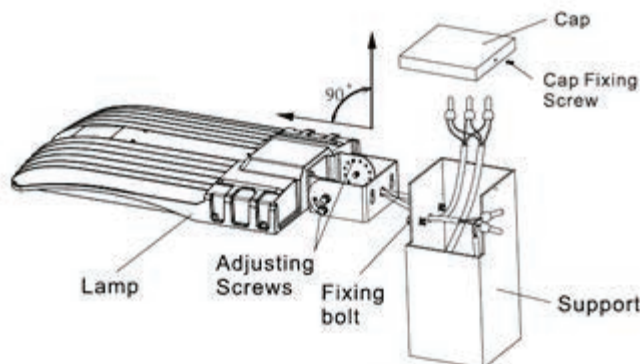

Figure 2-1
- Loosen cap fixing screw and take cap off. Loosen fixing bolt, fixed the fixture on the support and tighten fixing bolts. (Figure 2-1)
- Let the AC wire go through the support hole and connected correctly. Close cap and tighten cap fixing screw after AC cable is well placed in the support. (Figure 2-1)
- Loosen adjusting screws, align the fixture to required angle and fasten the screws. (Figure 2-1)